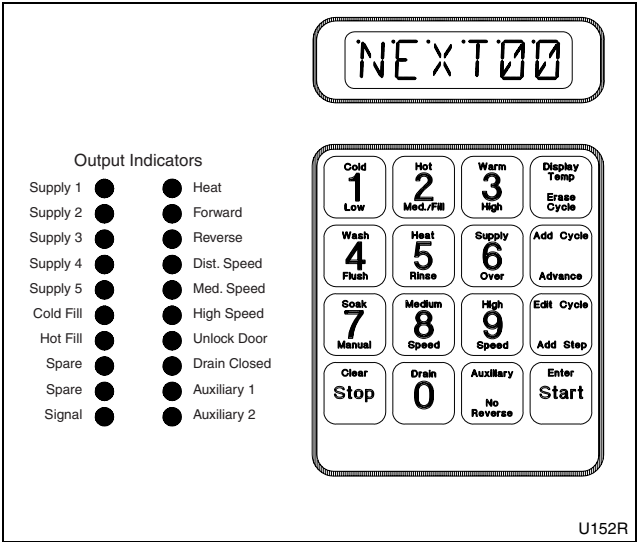

Figure 17
7. Enter the cycle number, 01-39, on the keypad. Refer to *Figure 17*.
8. Press the START key. Refer to *Figure 17*.